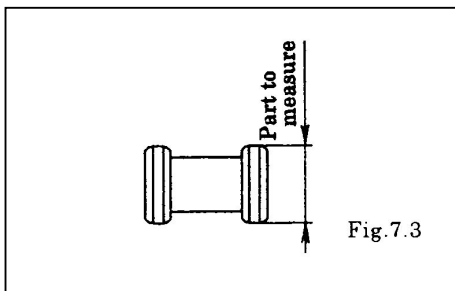

Fig.7.3
- Spool valve assembly [Fig. 7.3]